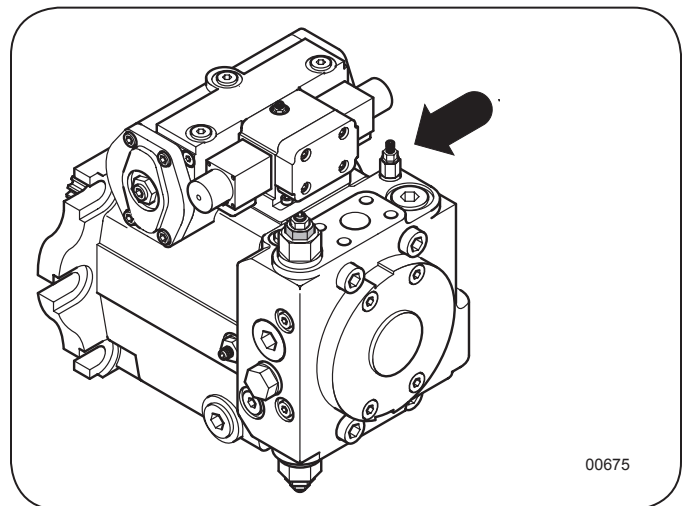

Figure 5: Wheel Drive PRO Relief
5. Before the directional reliefs can be set the wheel drive POR relief must be cancelled. Locate the POR relief on the wheel drive pump. See Figure 5.